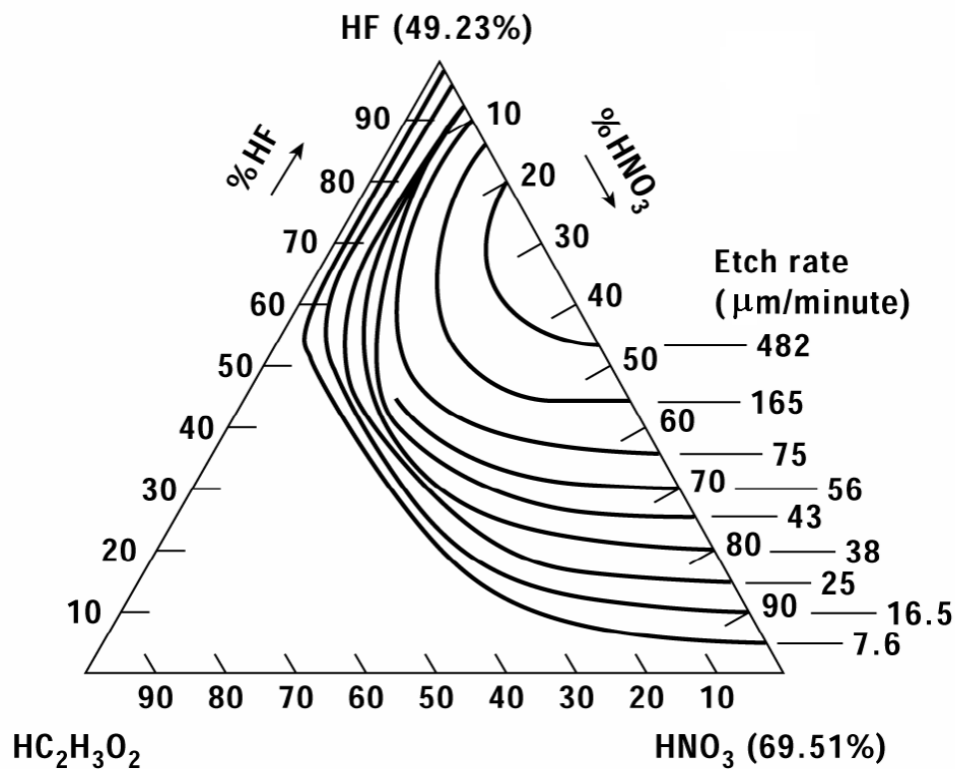

Figure 2 - Schematic of etch rate of silicon in HF and HNO_3 at room temperature
- [c] A solution consisting of 50% of HNO_3 (69.51%), 20% of HF (49.23%), and 30% of $\text{HC}_2\text{H}_3\text{O}_2$ is used to etch silicon. If the solution is held at room temperature, what is the expected etch rate? Refer to Figure 2 of the etch rate for silicon in HF and HNO_3 .